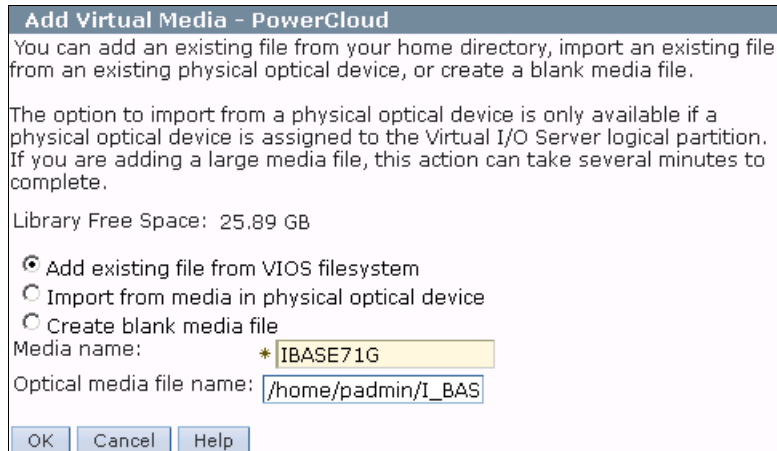

Figure 3-27 Adding virtual media
6. Add the transferred image file to the repository, as shown in Figure 3-27. Enter a media name by which the image can be identified and the full path to the image file. Click **OK** to create a Virtual Media object.